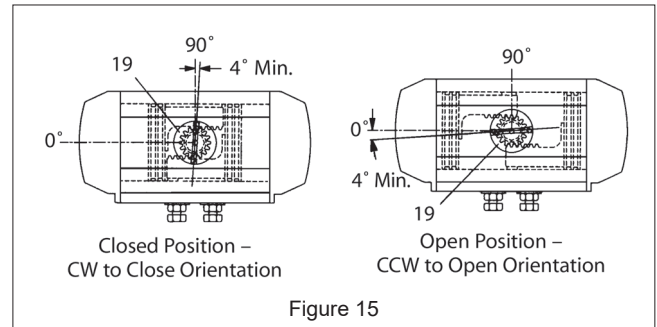

Figure 15
- h) Temporarily install the position indicator (19) onto the shaft (60) to determine whether the correct stroke is obtained. Verify that the slot in the top of the position indicator (19) will rotate a minimum of 4° beyond the 90° vertical centerline of the actuator body (50) and a minimum of 4° beyond the 0° horizontal centerline of the actuator body as shown in **(Figure 15)**. If the proper stroke is not obtained, remove the pistons and repeat from step 2d. Once the proper stroke is verified, remove the position indicator (19).